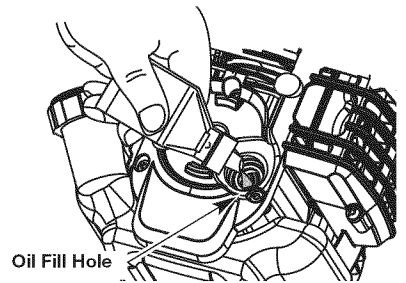

Fig. 6
- Pour the entire bottle of oil into the oil fill hole (Fig. 6).